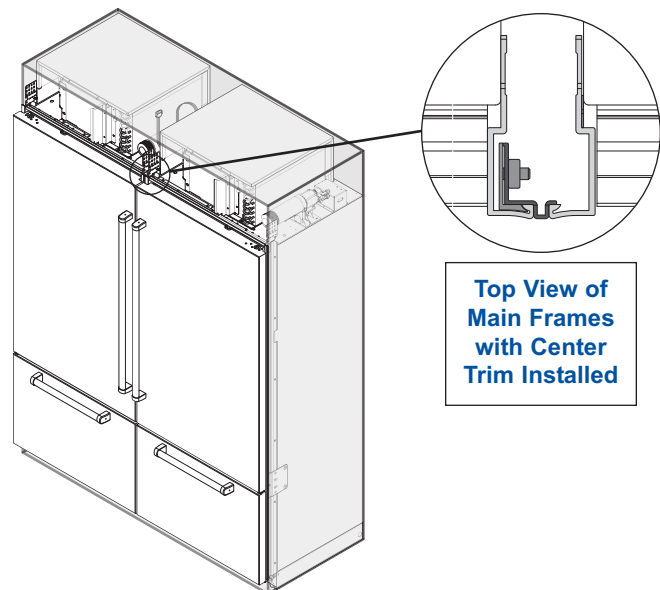

Figure 7. Both Units Installed
Install, level and align unit until its main frame bumps against flange of center trim piece and bottom of main frame aligns with bottom of center trim piece (See Figures 7).
- Using a 1/2" wrench, loosen the four bolts (2 each unit) at bottom adjoining corners of the appliances, leaving a 1/8" (3mm) to 1/4" (6mm) gap between bolt heads and unit shell bottom (See Figure 7).